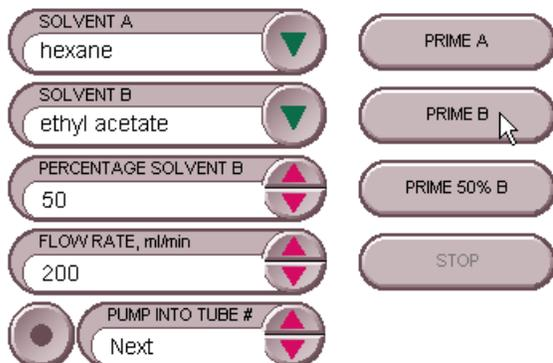

Figure 6-4 Manual Control Settings - Quick Cleaning
4. Set the Flow Rate to 200 mL/min (Figure 6-4).
3. Set the Flow Rate to 200 mL/min (Figure 6-4).